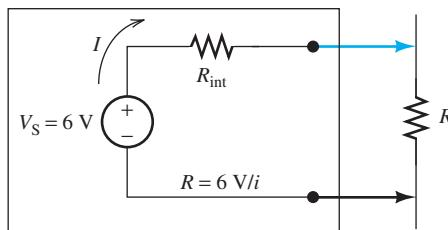

FIGURE P14.3 Ohmmeter circuit.
- 14.3 (H)** An ohmmeter applies a known voltage to the thermistor and measures the current drawn, I . The resistance is then calculated internally from this voltage and current. To prevent a short circuit between the leads from causing an extremely high current, a small resistor, R_{int} , is placed in series with the leads, as indicated in Figure P14.3.